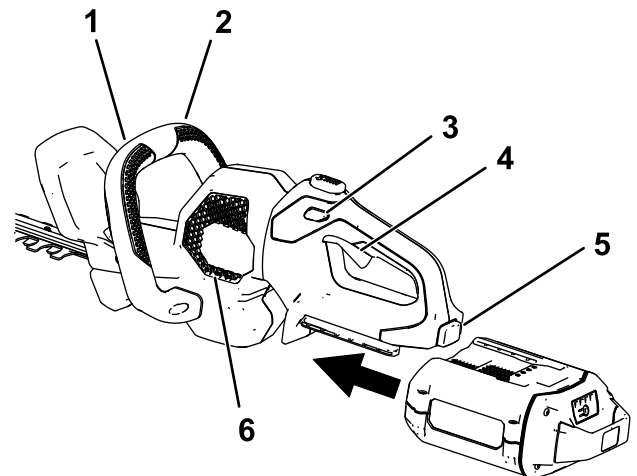

Figure 4
3. Align the cavity of the battery pack with the tongue in the handle housing, grasp the handle, and push the battery pack into the handle until the latch locks into place (Figure 4).
4. Place 1 hand on the trigger handle. Place the other hand on the auxiliary handle (Figure 4).
5. Press the lock switch and then squeeze the trigger switch while engaging the auxiliary-handle switch to turn on the hedge trimmer (Figure 4).
The trimmer stays on as long as the auxiliary-handle switch is engaged and the trigger is squeezed. You may release the lock switch once the hedge trimmer is running (Figure 4).
To shut off the hedge trimmer, release the trigger, auxiliary-handle switch, or both (Figure 4). Allow at least 5 seconds for the cutting blade to stop moving.